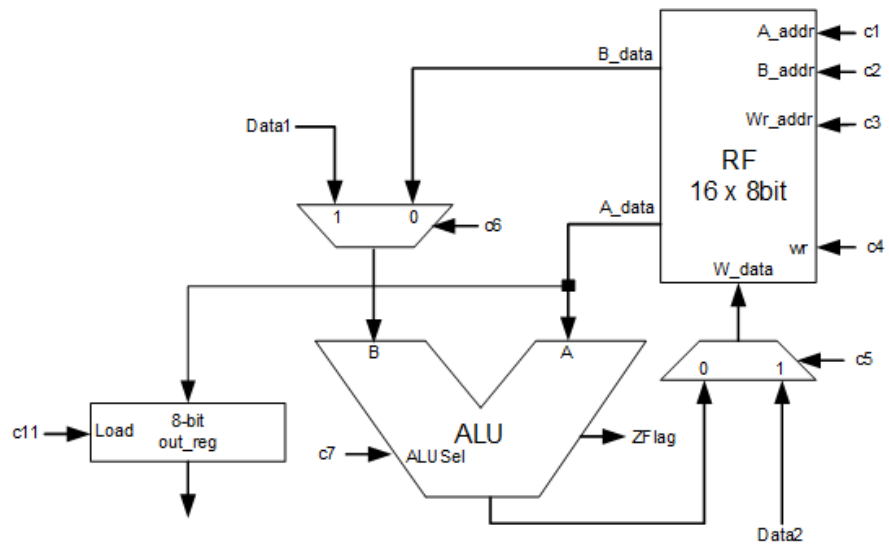

Figure 7. The Updated Datapath to support I/O
- 4) Modify the datapath as per Figure 7. The modification involves the addition of an 8-bit register (*out_reg*) with its input connected to *A_data* (register file read port A). The control signal *c11* is connected to the register load control (*c11*: *out_reg* ← *RF*[*c1*]). Add *c11* to the ROM word.